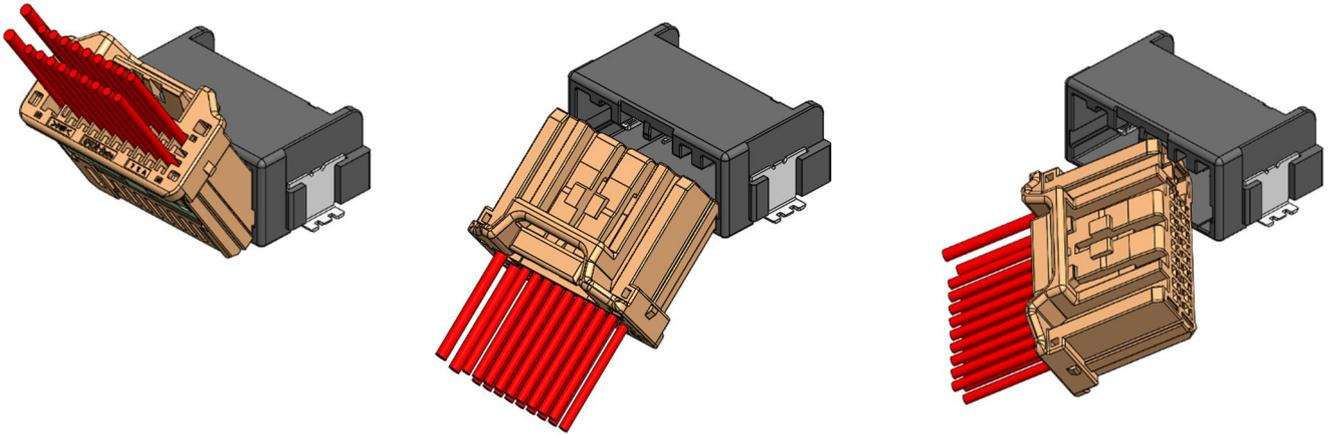

Fig 41. Mating orientations (not advisable)
- ① Only mate the connector in the direction instructed above. Do not forcefully mate in any orientation shown in Fig.41. Doing so may cause damage or deformation to connectors.
- ② If there is any damage or deformation, do not use the damaged item. Replace the item with a new one.